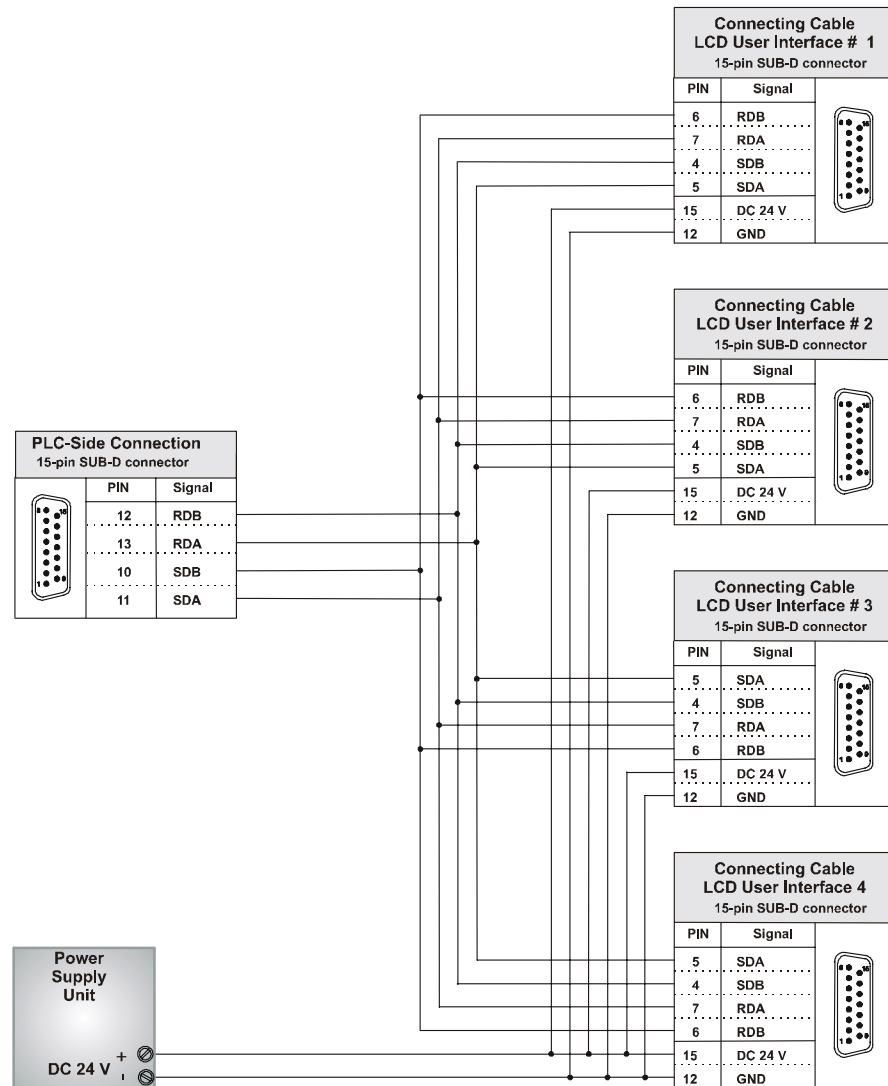

Fig. 23: Pin Assignment of Connecting Cable for Several LCD User Interfaces
- The originally shipped cables have to be modified according to Fig. 23, page 77.